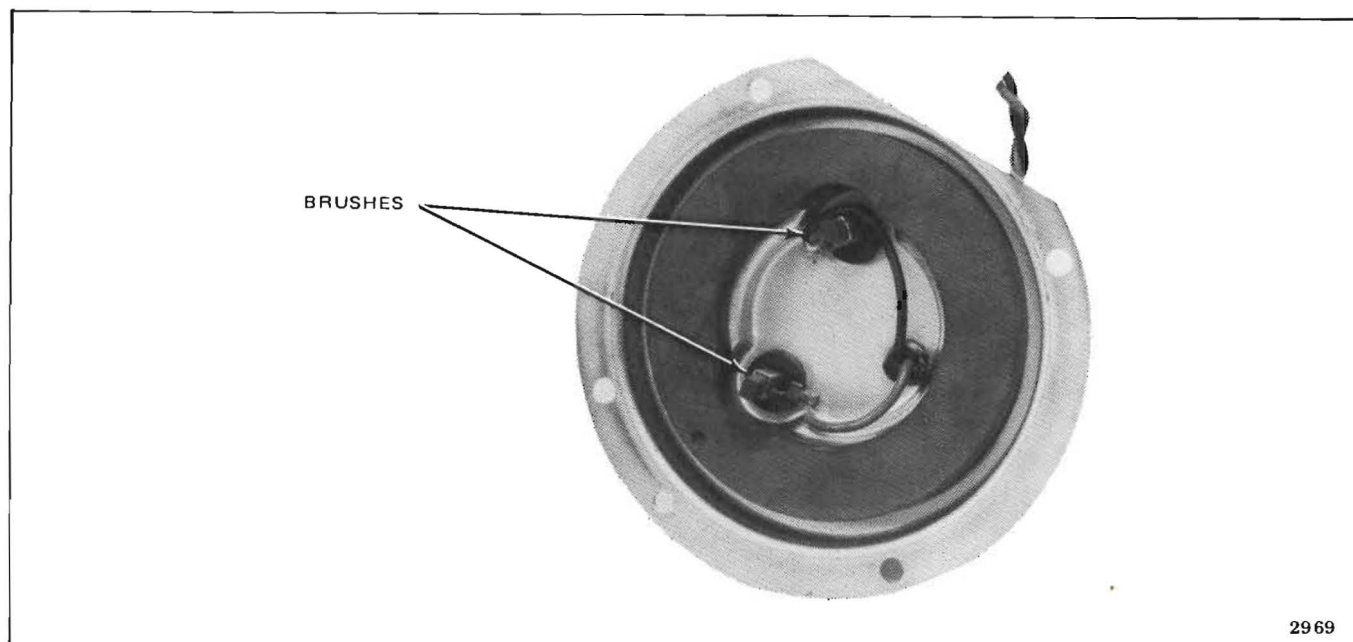

Figure 5-49. Capstan Motor Rear Cover Assembly
motor brushes (Figure 5-49) are attached to the inside of the capstan motor rear cover. Proceed as follows:
2. Remove only the two screws and flat washers shown in Figure 5-49 that secure the capstan motor rear cover to the motor (not the plate screws).